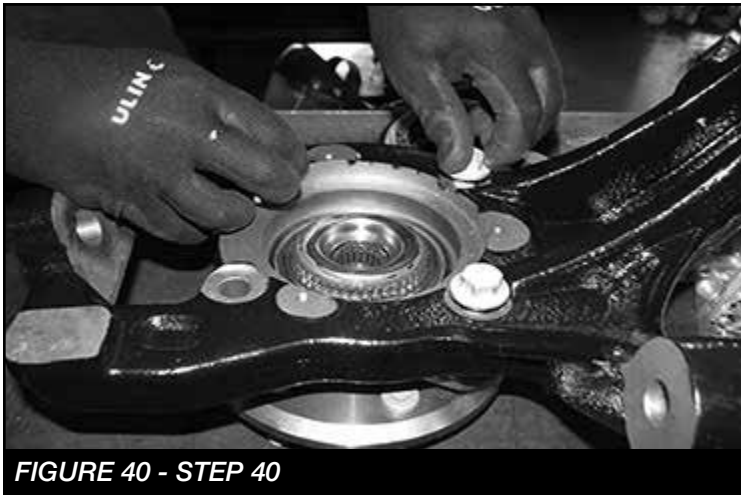

FIGURE 40 - STEP 40
40. Locate the Fabtech driver side spindle (FT30601D) or (FT30600D) and install the factory hub. Torque the four 14mm bolts to 160 ft- lbs. **SEE FIGURE 40**